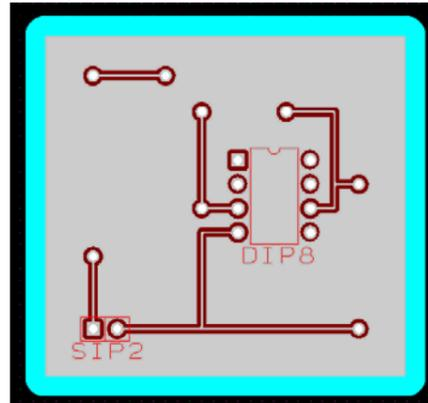

Fig. 51 Hatching data
- ④ In “Area Specified Using” box, check “PCB Outline Layer”.
- ⑤ After setting above, click **Apply** to start hatching (rubout) data generation. Fig. 51 shows hatched pattern.